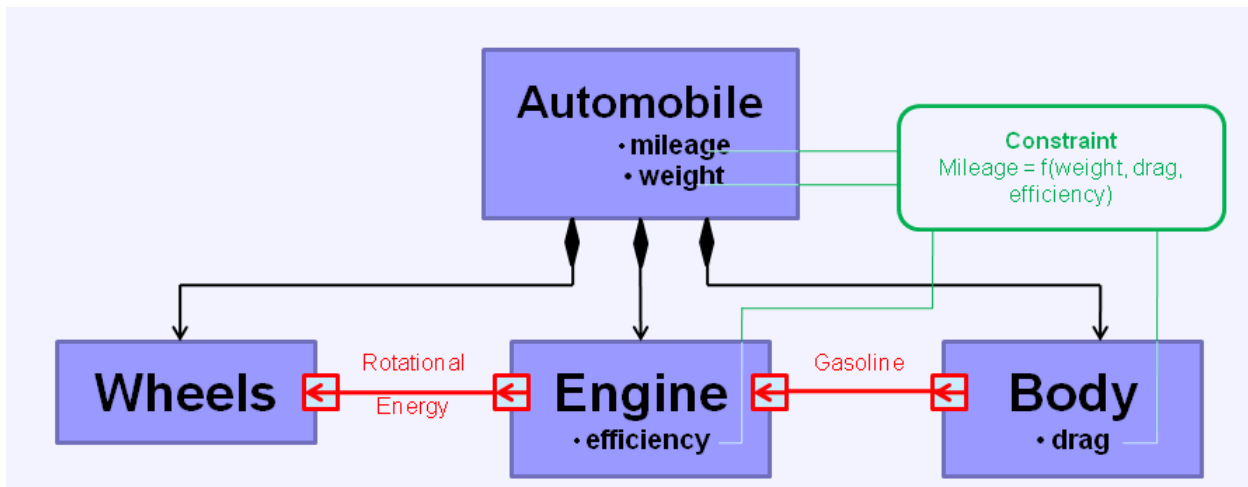

Figure 1.1 Structure diagram relationships
With respect to structure diagrams, there are three important types. These are illustrated in Figure 1.1.
- Block definition diagrams (BDD), which describe the organization of the structure, the hierarchy of system, subsystems, and all the elements that make up the system. In Figure 1.1, the Body, Engine, and Wheels are elements that belong to the object Automobile, the ownership relationships shown in black. Our tutorials usually begin by creating a BDD.
- Internal block diagrams (IBD), which describe qualitative flows between elements. In Figure 1.1, gasoline flows from a tank in the Body to the Engine, as shown in red. In the tutorial CommNetwork, we use an IBD to keep track of message traffic channels between stations, but IBDs do not affect parametrics directly.
- Parametric diagrams (PAR), which describe quantitative relationships between properties of the elements. In Figure 1.1, mileage, which is a property of Automobile, is a function of the drag of the Body, the efficiency of the Engine, and so forth in green. Creating and executing parametric diagrams is the primary focus of these tutorials.